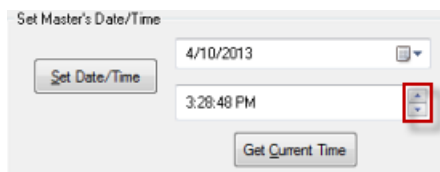

FIG. 32 Set Date and Time dialog - Time Settings
3. To adjust the *Time* setting, select the Hour, Minute or Second display in the *Time* field and click the up and down arrow buttons as desired (FIG. 32):